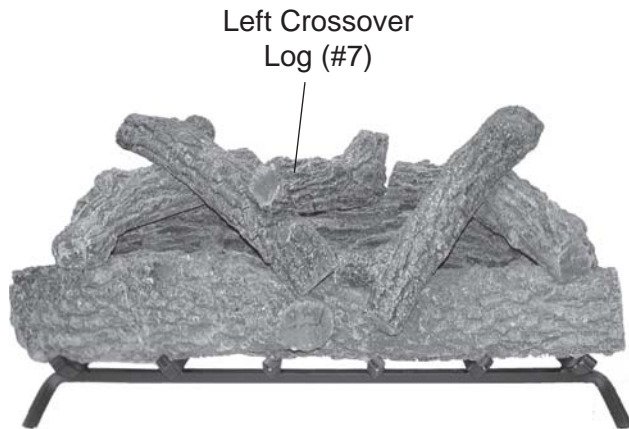

Figure 64 - Placing Left Crossover Log (#7)
7. Place Left Crossover Log #7 on Log #2 and Log #5. *See Figure 64.*